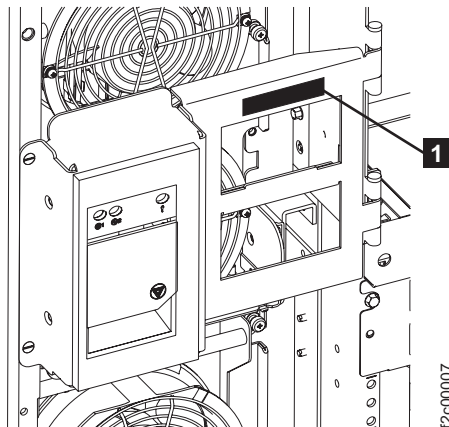

Figure 11. Rack operator panel label
1. Each rack has a rack number label **1**. See Figure 11. The label defines the following:
2. View the rack number label **1** on the expansion rack that you are installing. See Figure 11.